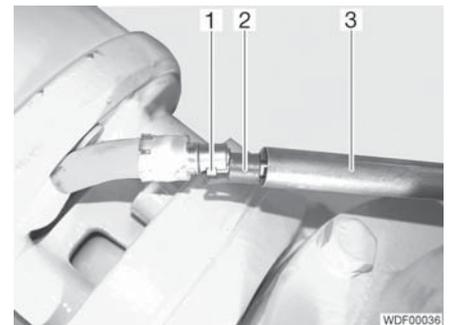

Fig. 240 Bowden cable on the front axle
- Push back the sleeve (Fig. 240,3).
- Carefully bend the hook of the fastener (Fig. 240,2) out to the side.
- Pull out the Bowden cable (Fig. 240,1) to the side.